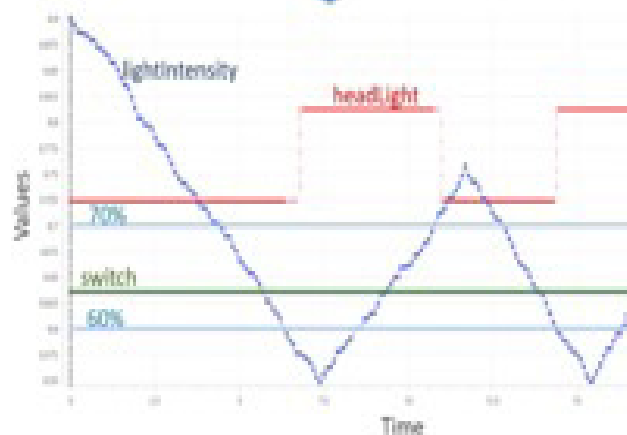

Figure 5: Debugging requirements
3. The state machines and textual requirements have executable semantics: simulation is therefore possible. You can now debug a specification in the same way that you would debug a piece of code. More easily, in fact. (Figure 5)